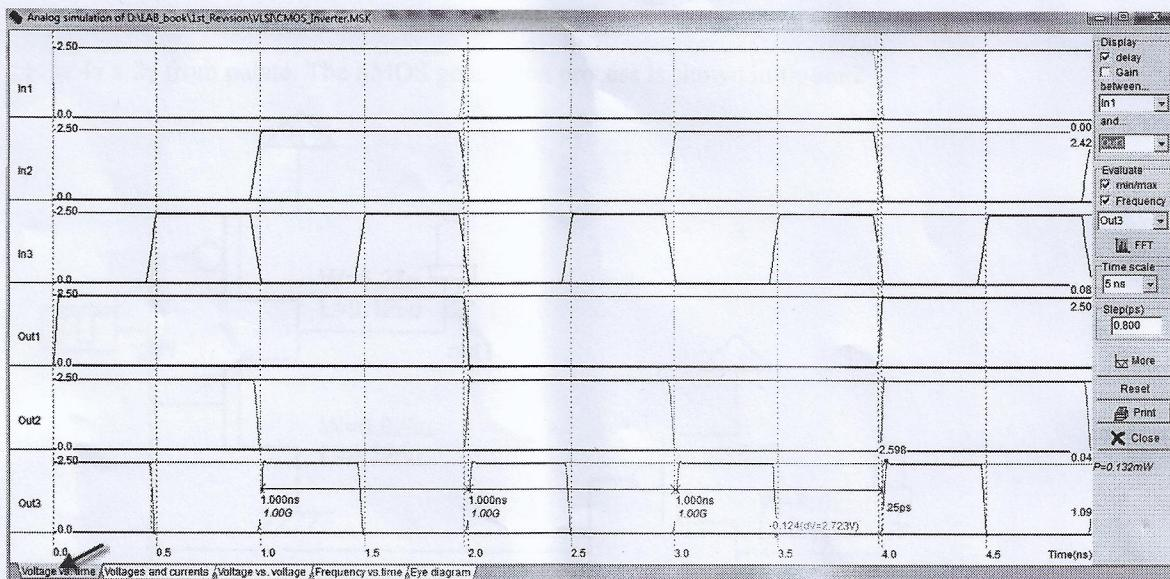

Fig. 3 Timing diagram of the three CMOS inverters
- ⇒ Run *Simulation* button to display the timing diagram of the three CMOS inverters as shown in figure 3.